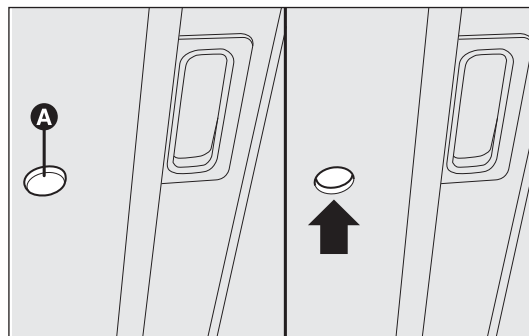

fig. 84
- insert the key into hole A-fig. 84 and turn it: